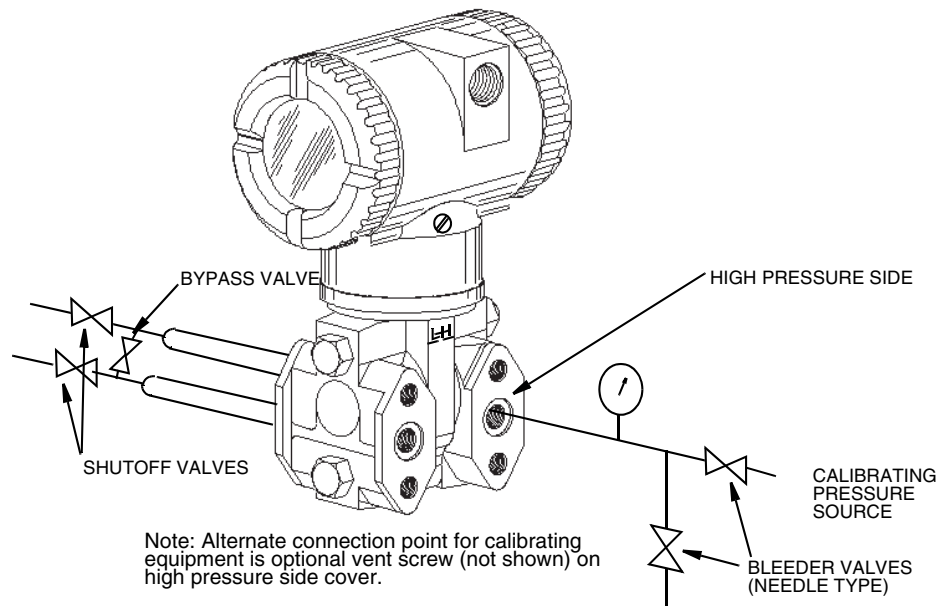

Figure 32. Field Calibration Setup
To set up the equipment, refer to Figure 32 and use the following procedure.
4. Complete the setup shown in Figure 32.